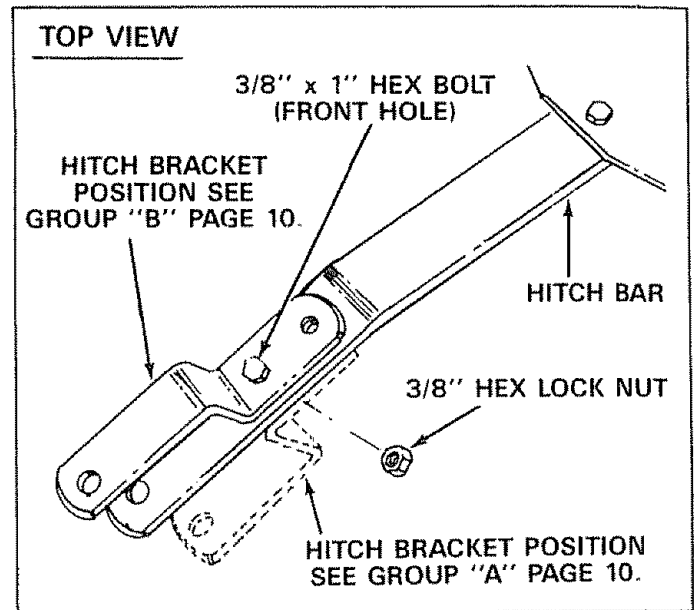

FIGURE 4
**Before assembling the hitch bracket to the hitch bar refer to figure 4 and page 10 to determine which position is required for your Sears riding mower or tractor.**
2. Assemble the hitch bracket to hitch bar with one 3/8" x 1" hex bolt (in the front hole) and 3/8" hex lock nut. **Do not tighten at this time.** See figures 4 and 5.
3. Assemble the hitch bracket with one 3/8" x 1-1/2" hex bolt (in the back hole), large flat washer and 3/8" hex lock nut. (**Do not tighten at this time**). See figures 4 and 5.